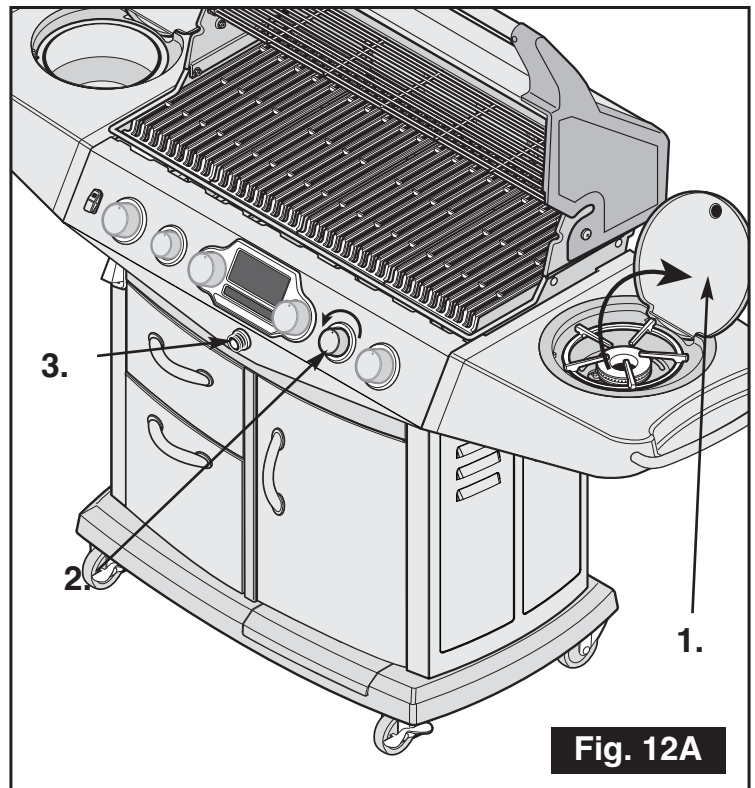

Fig. 12A
3. Depress ignitor. Repeat if necessary (Figure 12A).